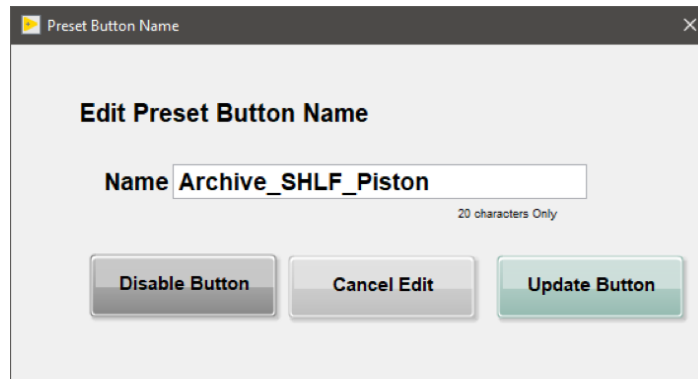

Figure 18- Edit Preset Window. Name a new preset, update an existing preset, or disable a preset button.
- 2) Click on one of the six sample preset buttons and a window will appear (Figure 18).